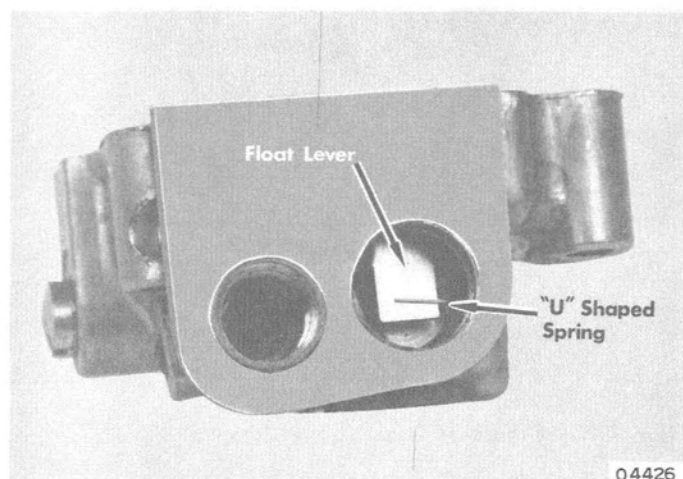

Figure 6. Positioning Needle and Float
2. Install float assembly and float lever pin. Be sure that float lever is inserted thru U-shaped spring in blunt end of inlet needle so that float movement will control the inlet needle. (Figure 6)